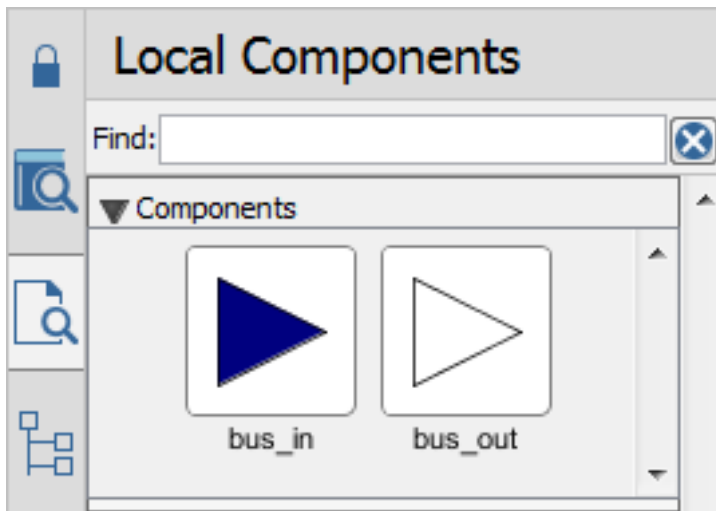

Figure 6.9: Custom Ports
- The two custom ports you have defined appear in the **Components** palette of the **Local Components** tab. See **Figure 6.9**.